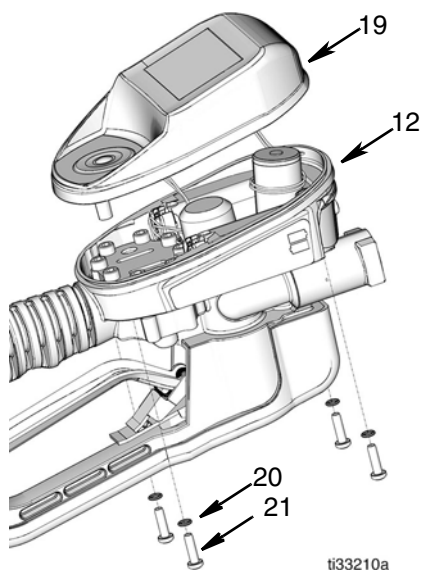

FIG. 4
3. Remove 4 screws (21) and o-rings (20) and carefully lift bezel (19) off housing (12) (FIG. 4).